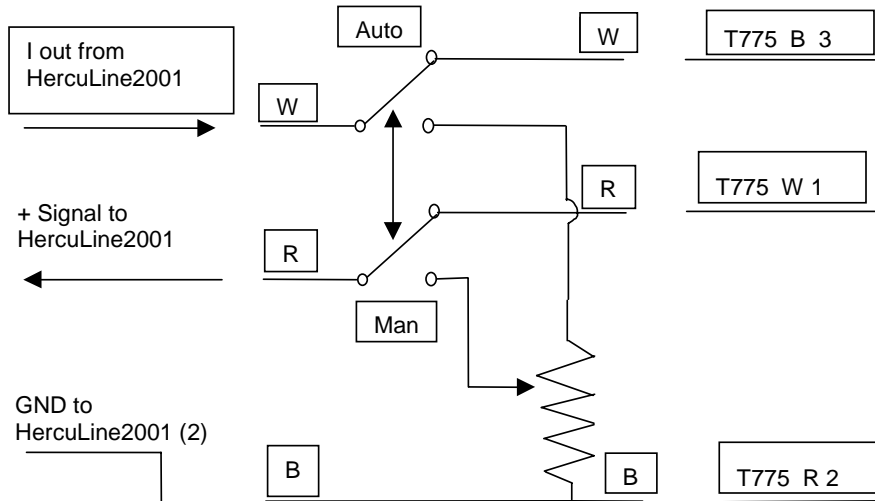

Figure 7 T775 Controller connections
1. This connection performs an emulation of a series 90 motor. If the controller being used is also an emulation of a Series 90, the connections required may be different. Shown in Figure 7 are the connections found necessary to connect a T775 controller through an S443A S90 Auto/Manual Control. If the controller has the capability to provide a 4/20 or voltage output, it is easier to use that mode. It will require only two wires and it will allow the independent use of the 4/20 output. If help is required, contact Honeywell.